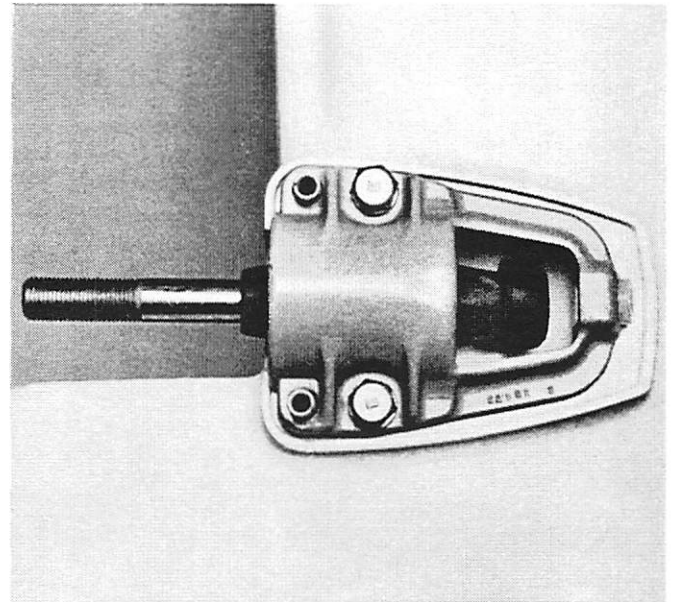

Figure 52B
- c. Position mount clamp over rubber mount. Install screws and tighten securely. (Figure 52B)